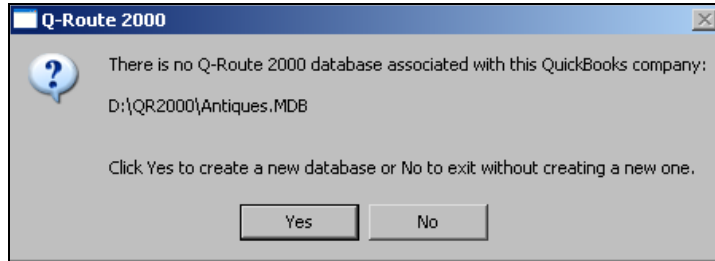

Figure 2.11
10. A dialog box similar to **Figure 2.11** will be displayed on your screen. This screen will only be displayed once, and is required for Q-Route to complete the integration with QuickBooks. Select **Yes** to create the required Q-Route database.